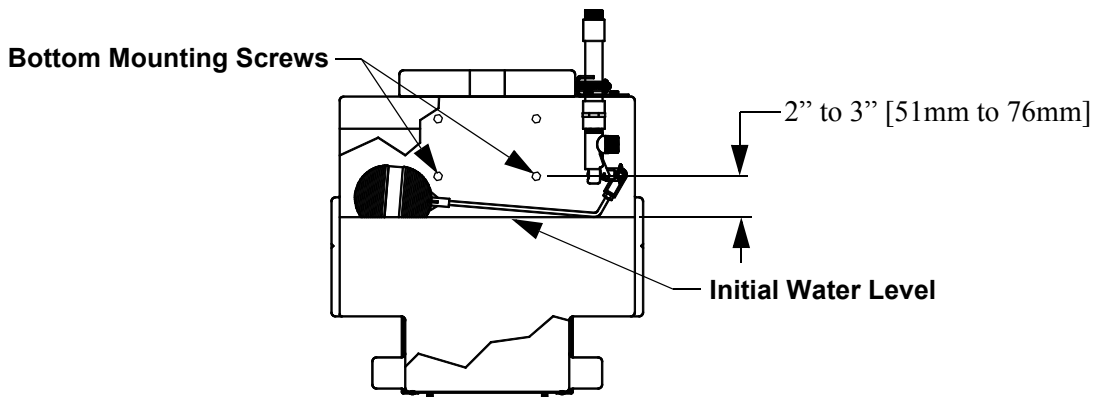

Figure 1. Initial Water Level
- Set the initial water level 2" to 3" (51mm to 76mm) below the Bottom Mounting Screws in the back of the Sump (See Figure 1).